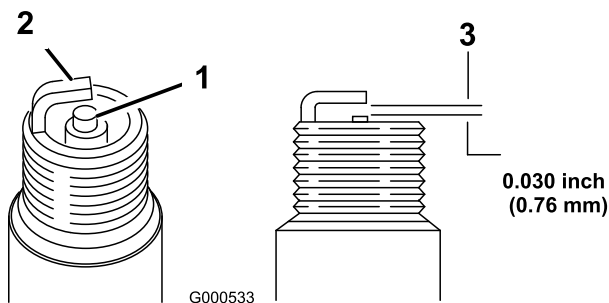

Figure 28
1. Look at the center of the spark plug (Figure 28). If you see light brown or gray on the insulator, the engine is operating properly. A black coating on the insulator usually means the air cleaner is dirty.
2. Check the gap between the center and side electrodes (Figure 28). Bend the side electrode (Figure 28) if the gap is not correct.